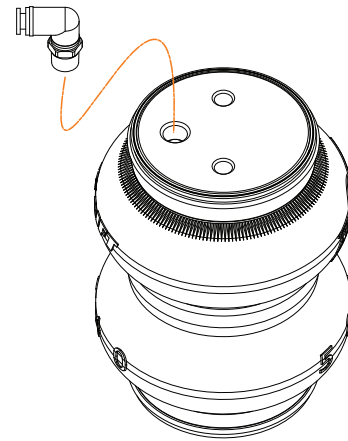

fig. D.14
2. Apply thread sealant to the fitting threads. Tighten the fitting into the air spring 1 3/4 turns beyond hand-tight (Fig. D.14).